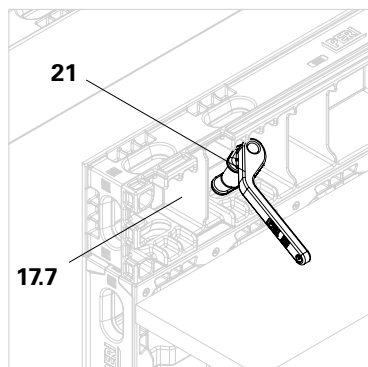
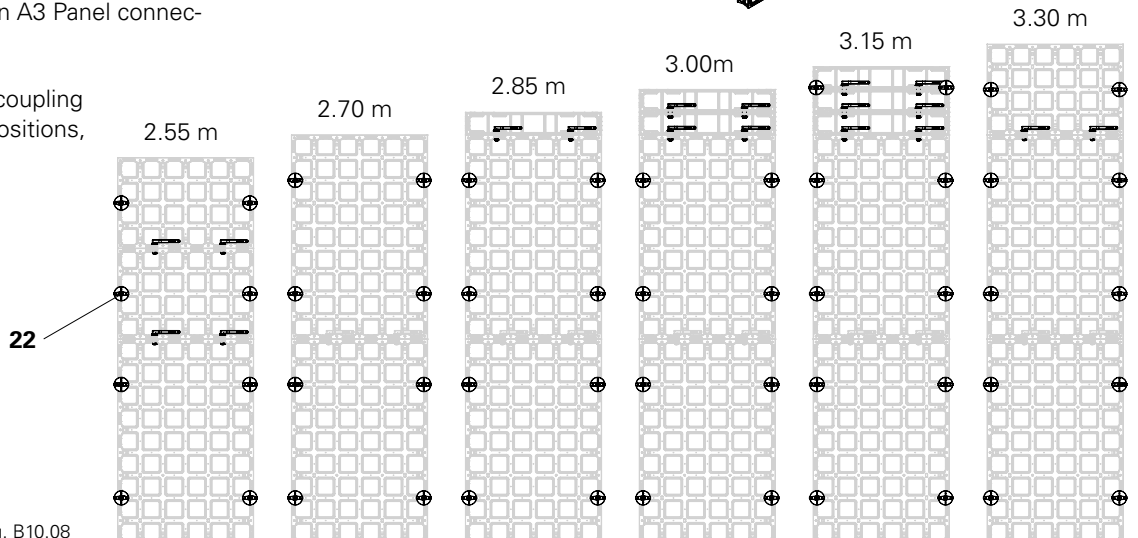

Fig. B10.07a
Fig. B10.08
By combining the DP 135 panel, DP 60 panel and DFP filler panel, heights of 2.55 m up to 3.30 m can be realised in 15 cm increments. (Fig. B10.08)
1. Mount the DFP filler panel (17.7) at the top of the standard panels using the DUO coupler (21). (Fig. B10.07a)
2. Connect the DFP filler panels (17.7) beneath each other using DUO couplers (21).
4. Install the DUO coupling tie (22). For tie positions, see Fig. B10.08.